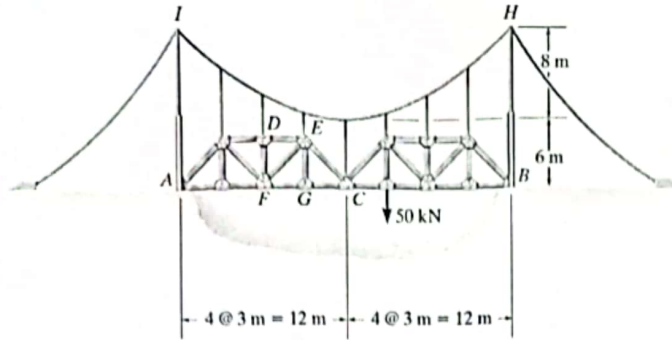

Fig. 6
The suspension bridge in Fig. 6 is constructed using the two stiffening trusses that are pin connected at their ends C and supported by a pin at A and a rocker at B . Determine the maximum tension in the cable IH . The cable has a parabolic shape and the bridge is subjected to the single load of 50 kN. (20) 4